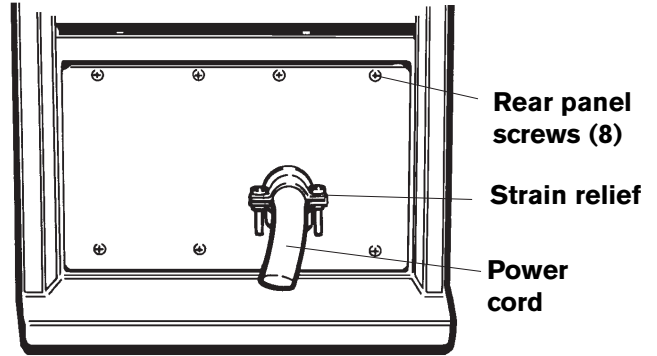

Figure 6 - Hand Torch Power Supply Rear Panel
10. Remove the hand torch power supply rear panel and disconnect the power cord. See Figs. 6 and 7A or 7B.
- Loosen the power cord strain relief (208/240/480 power supply rear panel shown in Fig. 6.)